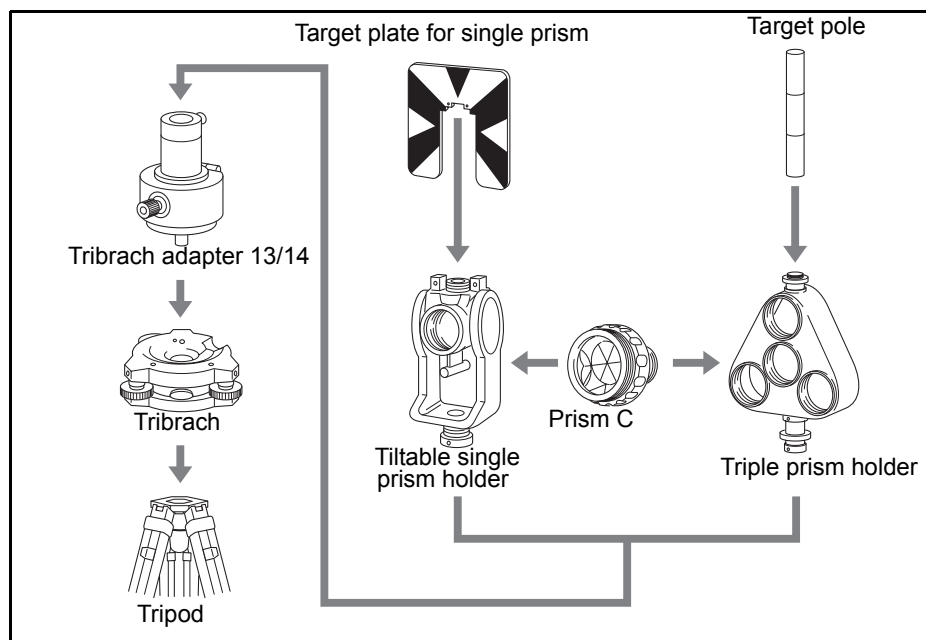

Figure 2.2 Assembling the prism reflector
1. Assemble the prism reflector as shown in Figure 2.2.